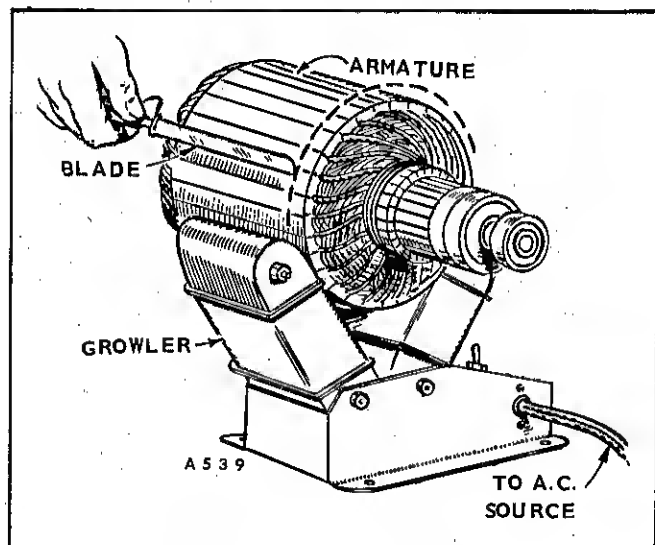

FIGURE 87. CHECKING FOR SHORTS
4. This test can only be performed with the generator disassembled and requires a growler. Place the armature in the growler, operate the growler and pass a steel strip back and forth over above the armature windings (Fig. 87). If the strip is magnetically attracted to the armature at any point, a short is indicated. After testing in one position, rotate the armature slightly and repeat the test. Do this for one complete revolution.